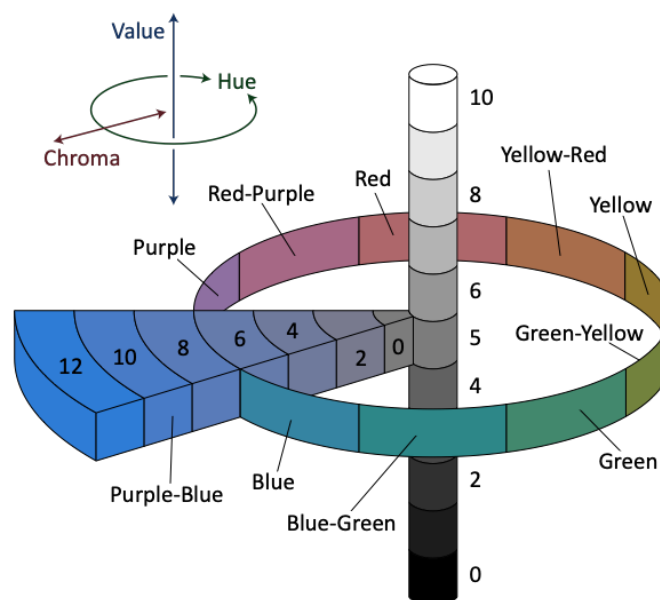

Figure 2: The Munsell Colour System
the same way that length or weight might be expressed. For example, in 1905 the American artist A. H. Munsell devised a method for expressing colours which utilised a great number of paper colour chips classified according to their hue (Munsell Hue), lightness (Munsell Value), and saturation (Munsell Chroma) for visual comparison with a specimen colour. Later, after a variety of further experiments, this system was updated to create the Munsell Renotation System, which is the Munsell system presently in use (see Figure 2). In this system, any given colour is expressed as a letter/number combination (H V/C) in terms of its hue (H), value (V), and chroma (C) as visually evaluated using the Munsell Colour Charts.